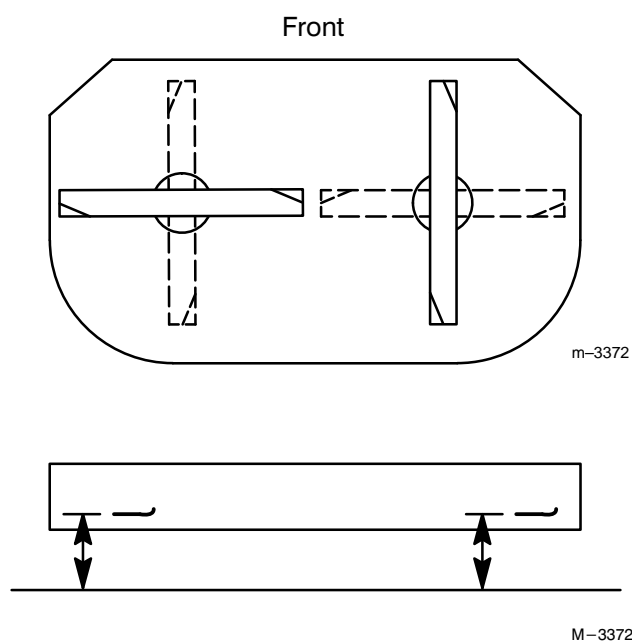
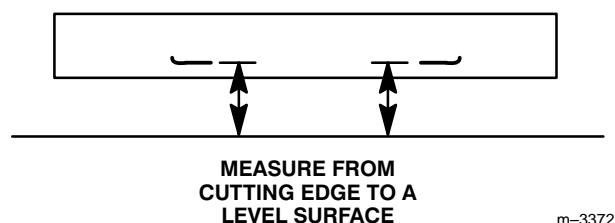

Figure 20
Figure 21
1. Rotate the blades until the ends face forward and backward (Fig. 20). Measure from a level surface to the cutting edge of the blades (Fig. 21). Note this dimension.